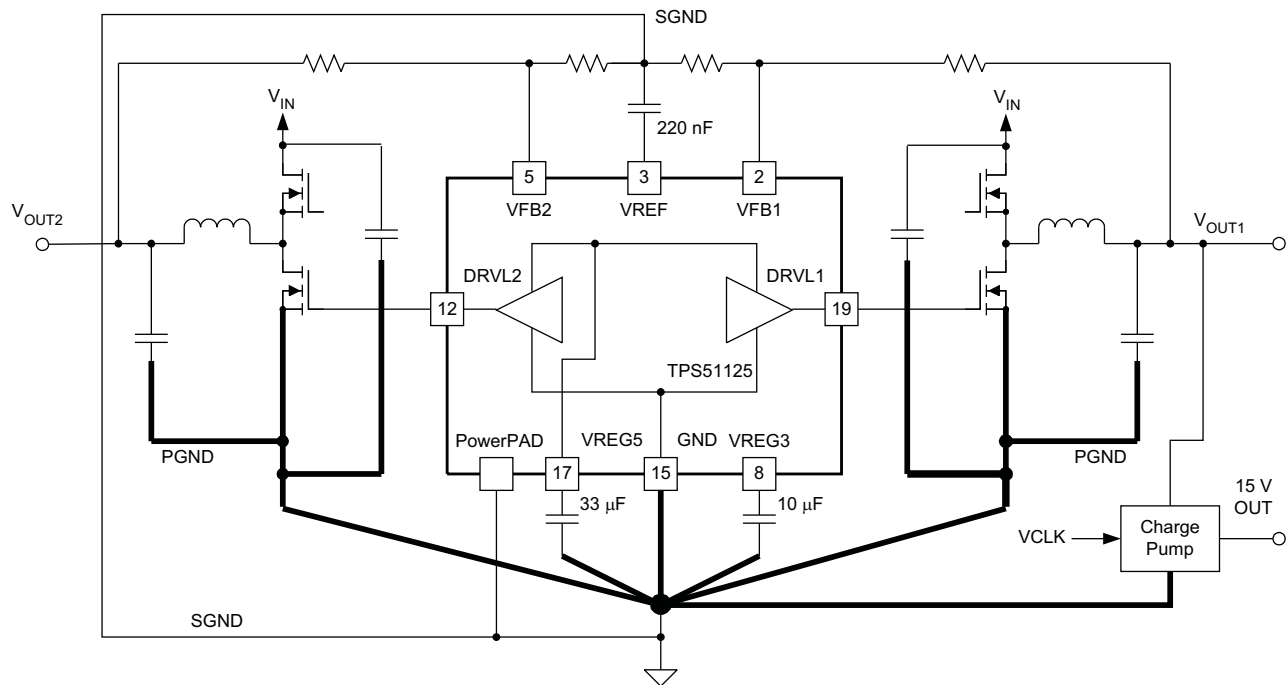

Figure 43. Ground System
- TPS51125 has only one GND pin and special care of GND trace design makes operation stable, especially when both channels operate. Group GND terminals of output voltage divider of both channels and the VREF capacitor as close as possible, connect them to an inner GND plane with PowerPad, overcurrent setting resistor, EN0 pull-down resistor and EN0 bypass capacitor as shown in the thin GND line of Figure 43. This trace is named Signal Ground (SGND). Group ground terminals of VIN capacitor(s), VOUT capacitor(s) and source of low-side MOSFETs as close as possible, and connect them to another inner GND plane with GND pin of the device, GND terminal of VREG3 and VREG5 capacitors and 15-V charge-pump circuit as shown in the bold GND line of Figure 43. This trace is named Power Ground (PGND). SGND should be connected to PGND at the middle point between ground terminal of VOUT capacitors.